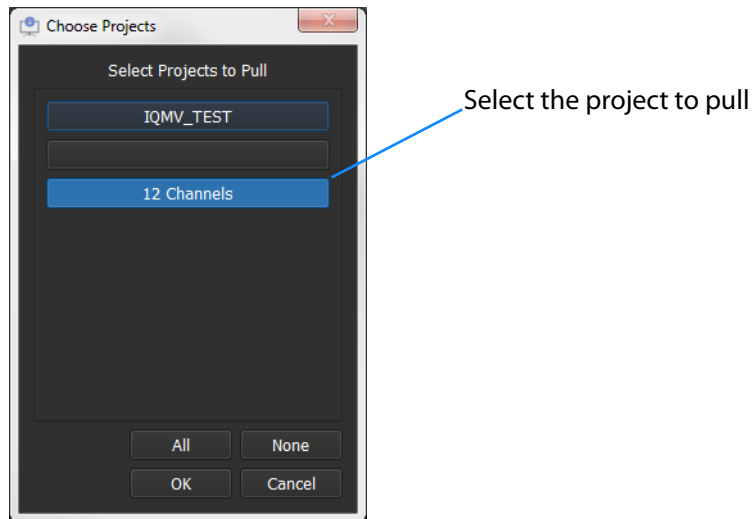

Fig. 6-90: Choose Projects Dialog
- 4 Select the project in the **Choose Projects** dialog (see Figure 6-90) and click **OK**.